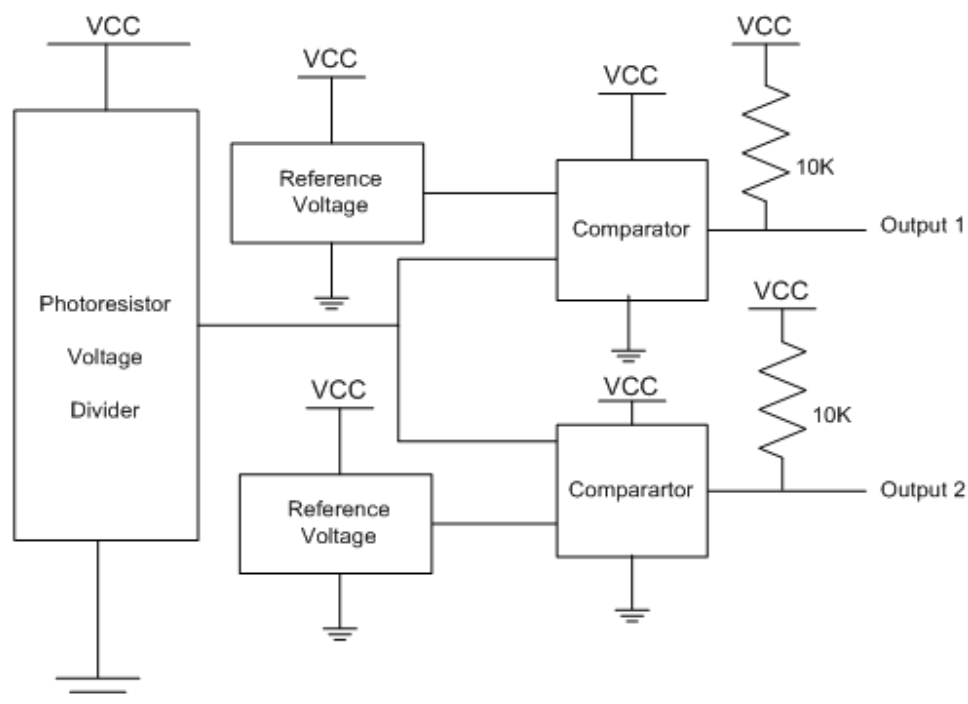

Figure 5.10: Photovore Challenge
1. In this Lab, we have constructed a simple system that uses comparators to compare voltages and makes the TekBot move. Figure 5.10 shows a block diagram for a 'photovore' controller for your TekBot. This circuit will cause your TekBot to always steer using light intensity as a guide. Resistors that change their value in response to light are called photoresistors.